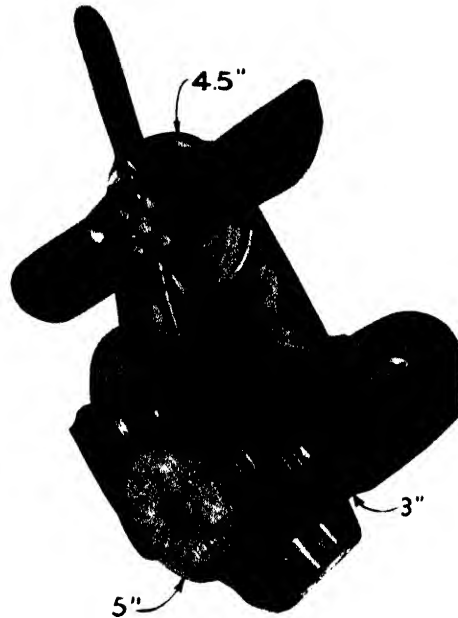

FIG. 45. AUTO FAN.
1. The pulley sheave on the end of the crankshaft of an automobile motor, Fig. 45, revolves at 1000 r.p.m. when the car is traveling at 20 miles per hour (m.p.h.)